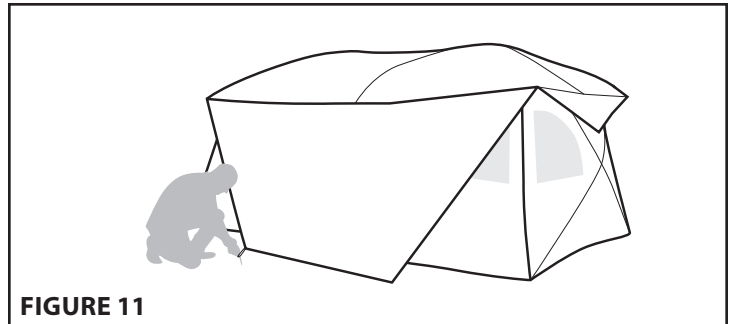

FIGURE 11
6. For full rain protection, unroll the large side panels along the length of each side of the rainfly. The corners of these panels can be fastened to the ground stake that is also being used for the tie down rope. [**SEE FIGURE 11**] When not in use, these large side panels can be rolled up and stored along the upper seam of the rain fly.